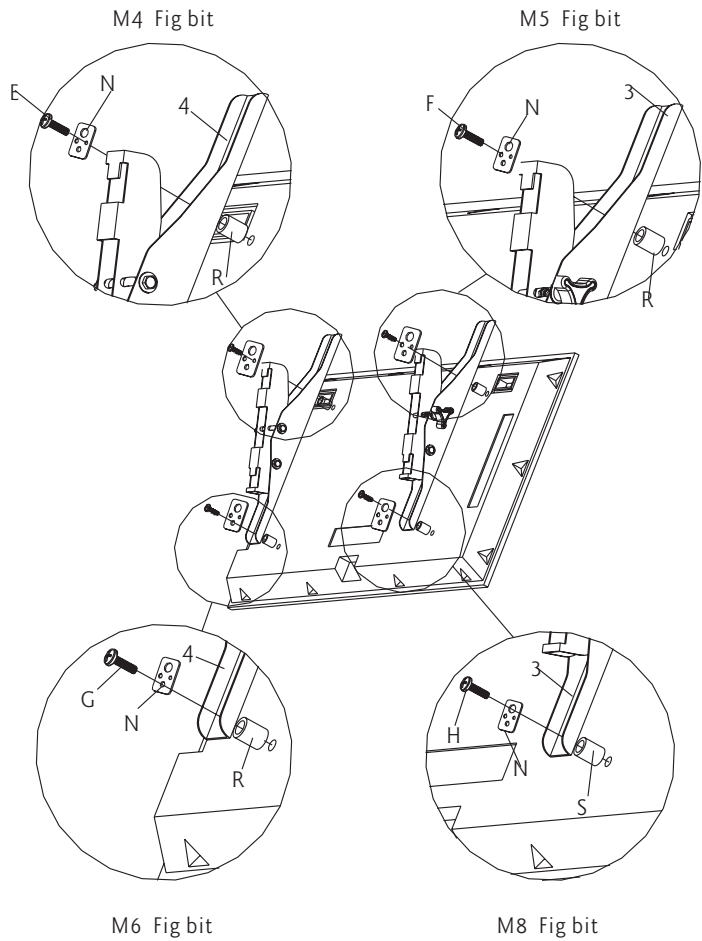

Fig 1b
2. Some displays have curved backs with recessed mounting lands(Fig.a). It will require the use of spacer. For this display, install a 9/16" spacer(R) and 1/2" spacer(S) between display and the bracket. As shown in Fig 1b.